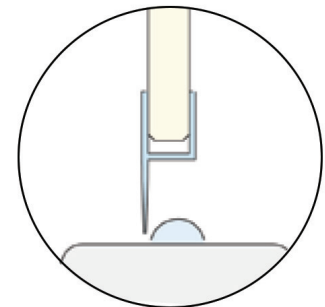

FIG 17.
- Flat topped edge, install door seal and remove red backing from clear water bar and adhere to bath edge. Move seal down until fin just overlaps waterbar (FIG 17).